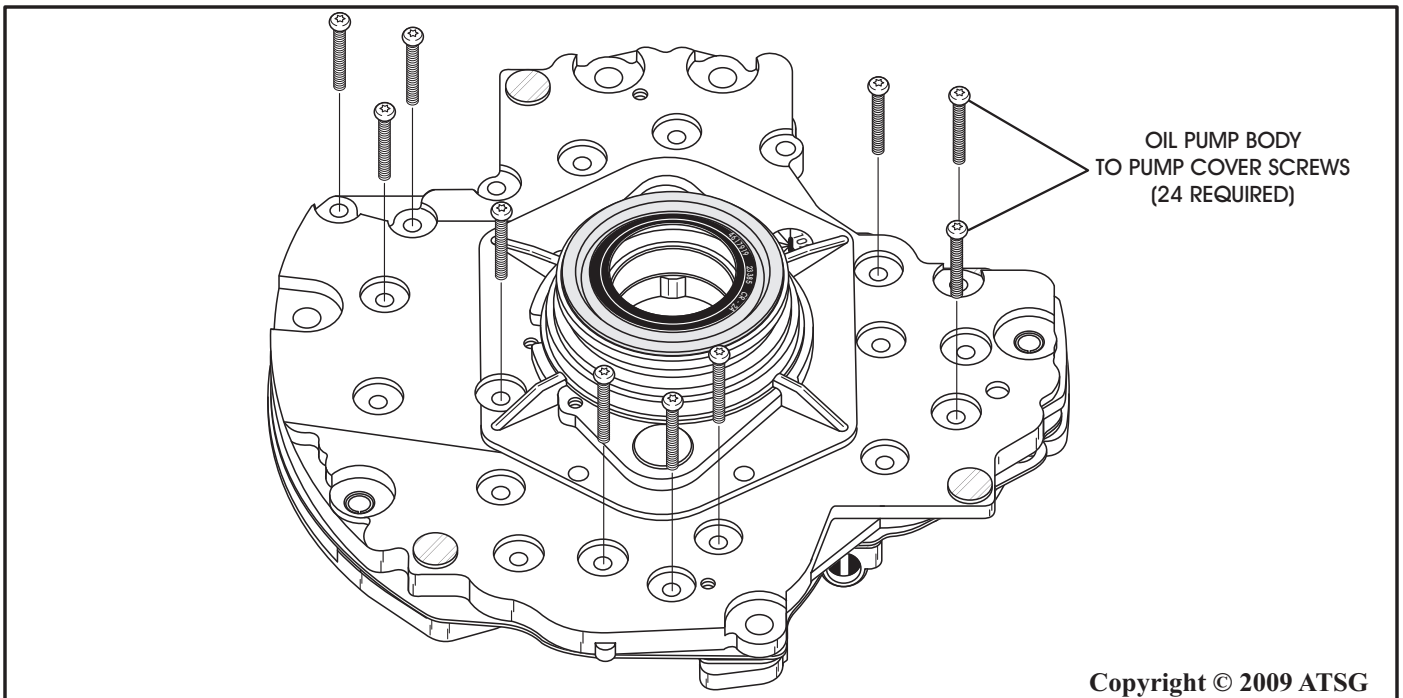

Figure 94
15. Seat the two oil pump halves together and very carefully turn the assembly over as shown in Figure 94. Start all 24 screws finger tight.
16. Torque all bolts slowly, starting in center and working out in a circle, to 4.5 Nm (40 in lbs). Refer to Figure 94.